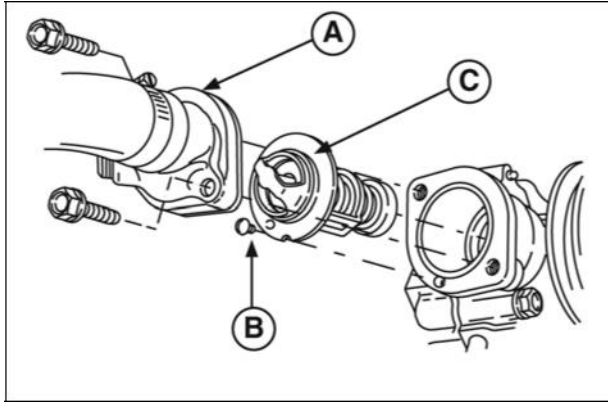

Figure 3
2. Remove screws and coolant outlet housing (A, Figure 3).
3. Remove locating screw (B) and thermostat (C).